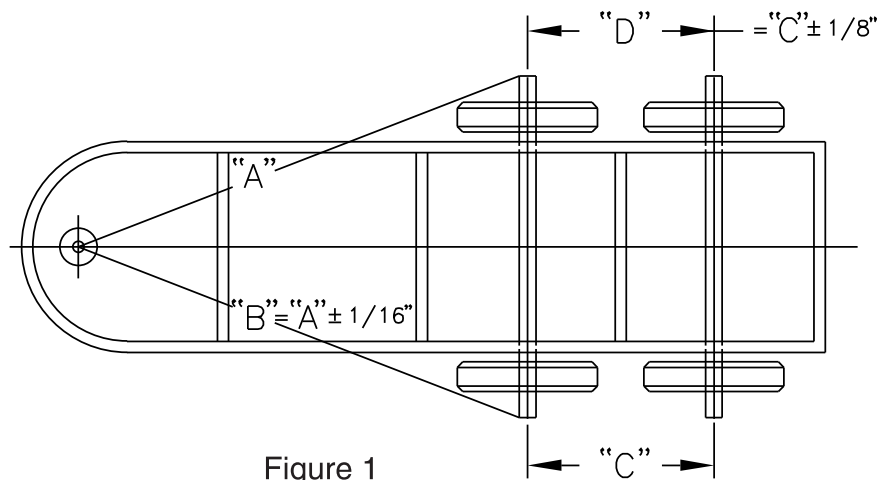

Figure 1
2. Measure from king pin to spindle center on each side. To simplify this process, plumb lines may be dropped from the king pin and from the center line of each spindle end. Measurements “A” and “B” can then be taped on the floor to eliminate any miss measurement due to sagging of the tape for long measurements. Compare A and B measurements (see Figure 1).